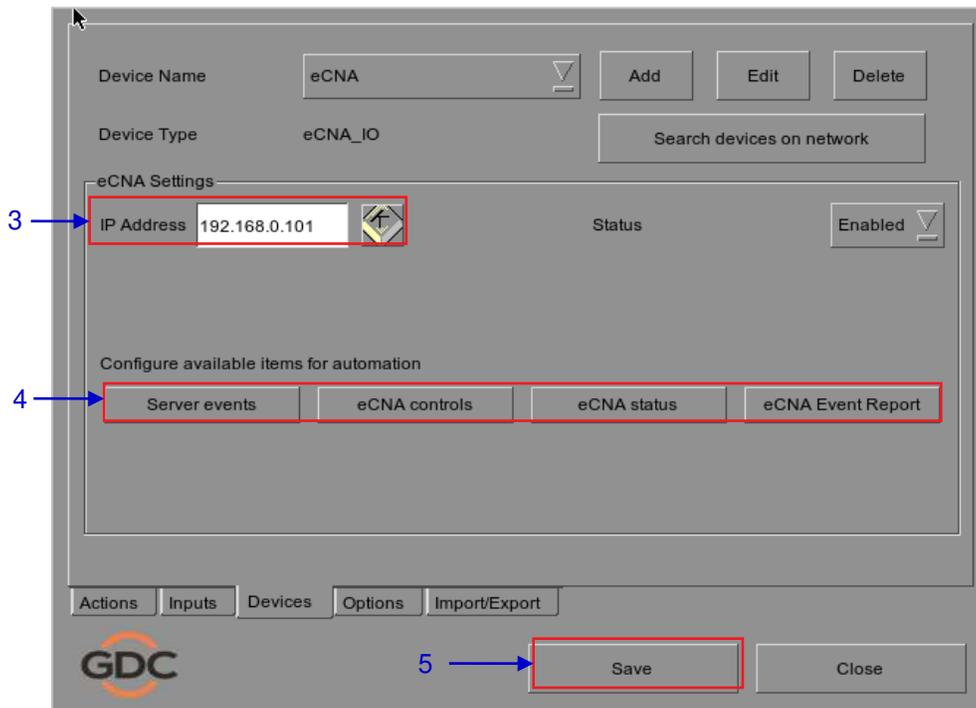

Figure 44 Automation settings for eCNA device.
3. Enter the IP address of the eCNA device (see Figure 44).